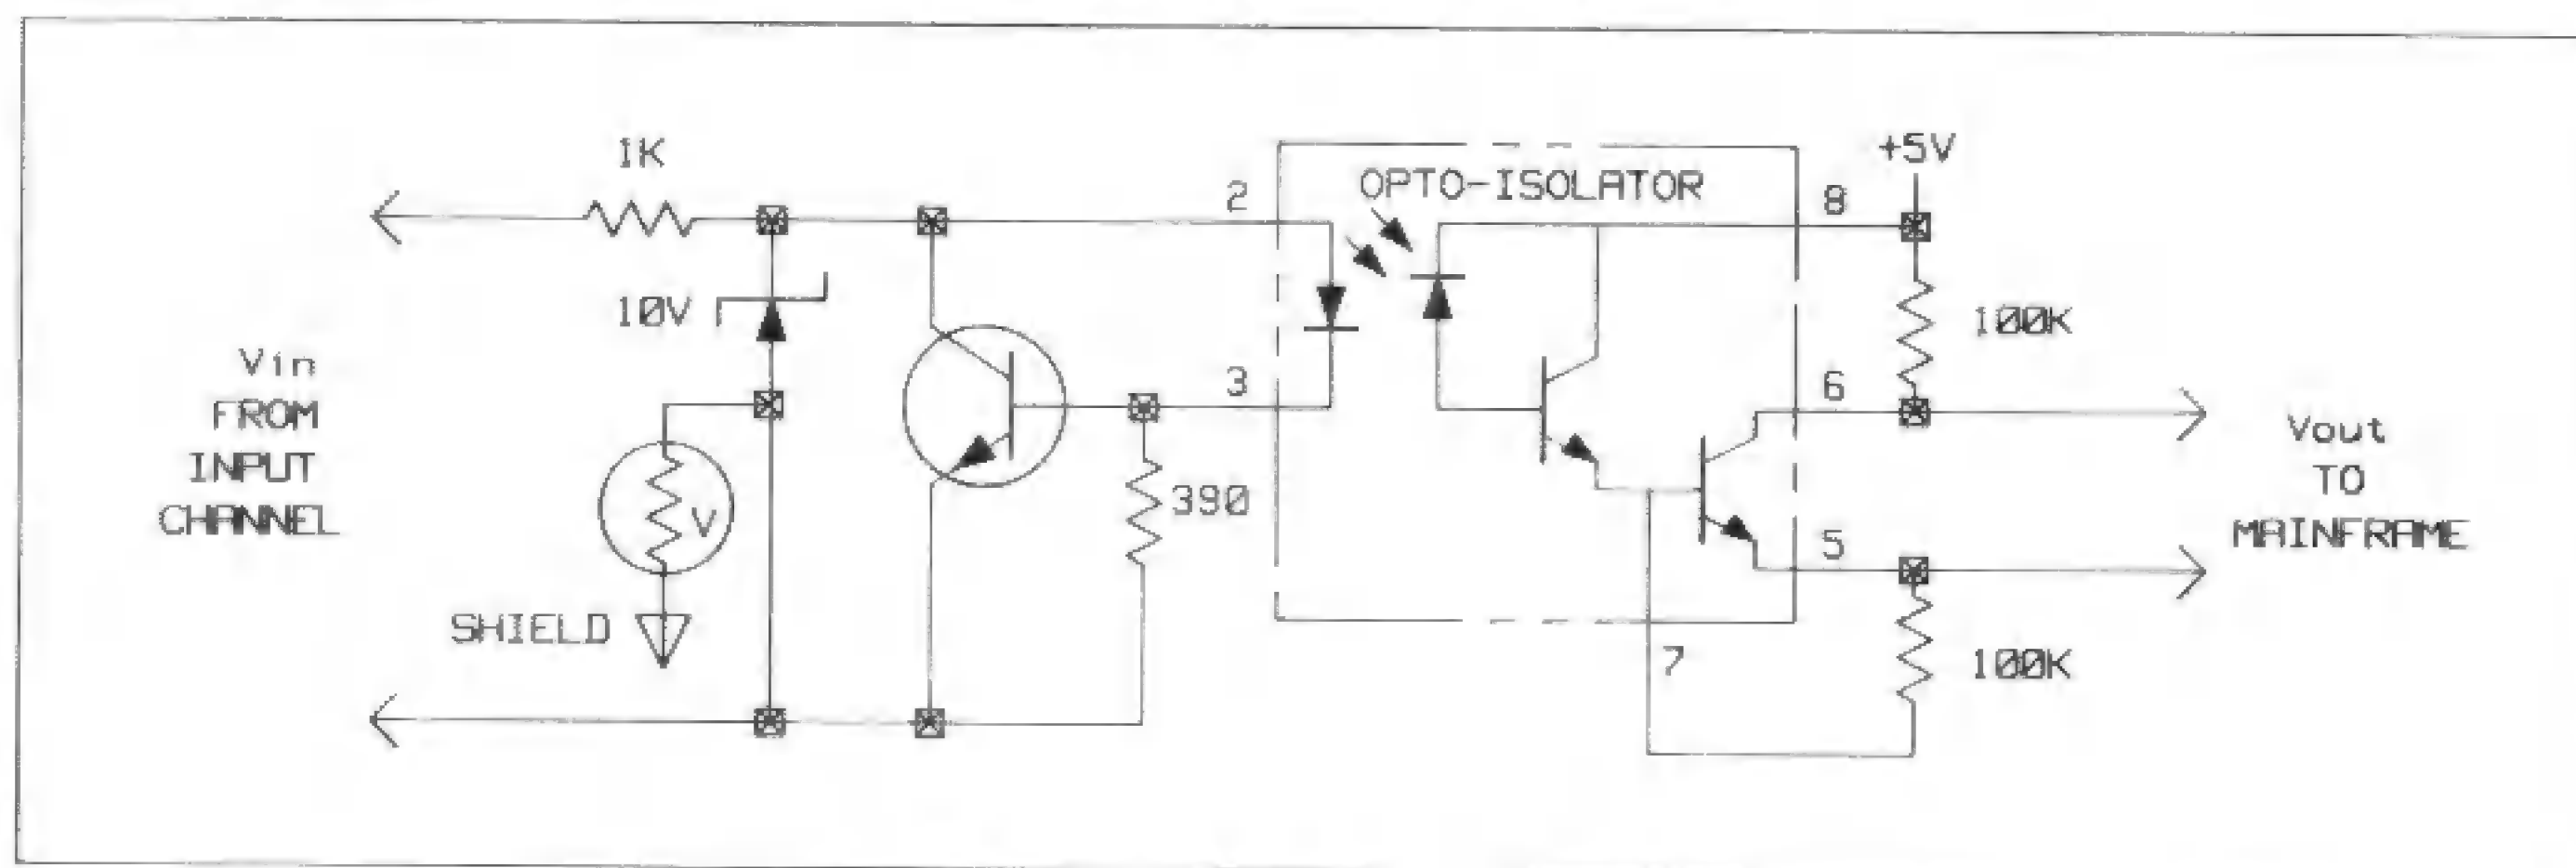

Figure 3-8-1. Schematic of One Digital Input
**3-8-11. Input Bits.** A schematic of one digital input is shown in Figure 3-8-1. For a "1" to be recognized, the input voltage can be anywhere between 2V and 24V. Any voltage less than 2V will be recognized as a "0". The zener diode across the input provides a 10V clamp for protection. The transistor will sink excess current away from the input of the optoisolator. The varistor provides additional protection from voltage transients.